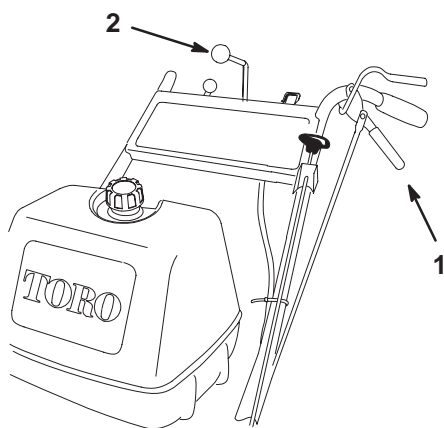

Figure 23
3. Slowly release the drive levers to move forward (Fig. 23).
To go straight, release drive levers equally (Fig. 23).
To turn, squeeze the drive lever on the side and direction you want to turn (Fig. 23).
3. Slowly squeeze the drive levers back together to move rearward (Fig. 23).